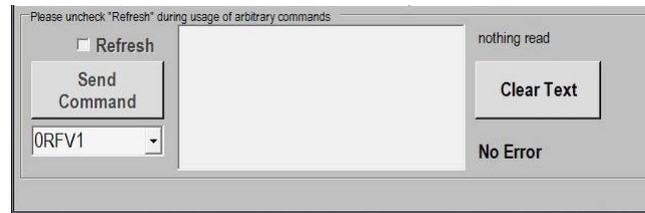

Fig.14: Command section of the User Interface
- Make sure the Refresh Box is unchecked (as in Fig. 14).